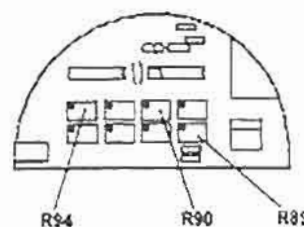

Figure 3-46. BLEND 2 power calibration.
(5) Depress the yellow "BLEND 2" keyboard switch.
(6) Set "CUT POWER" to 200 watts by depressing the up ( $\Delta$ ) keyboard switch until 200 shows in the center digital display.
(7) Adjust resistor R94 to approximately midpoint and turn resistor R90 fully clockwise (fig 3-46).
(8) Depress the "CUT" pedal on the monopolar footswitch.
(9) Observe the wattmeter and adjust resistor R94 until the wattmeter indicates 200. Release the "CUT" pedal.
(10) Change the wattmeter load to 100 ohms.
(11) Turn resistor R89 counterclockwise to its midpoint.
(12) Depress the "CUT" pedal on the monopolar footswitch.
(13) Observe the wattmeter and adjust resistor R90 until the wattmeter indicates  $150 \pm 50$ . Release the pedal.
(14) Change the wattmeter load to 300 ohms.
(15) Depress the yellow "BLEND 1" keyboard switch.
(16) Depress the "CUT" pedal on the monopolar footswitch momentarily and observe the wattmeter which should indicate 200. Record the watts, if out of tolerance.
(17) Depress the yellow "BLEND 3" keyboard switch.